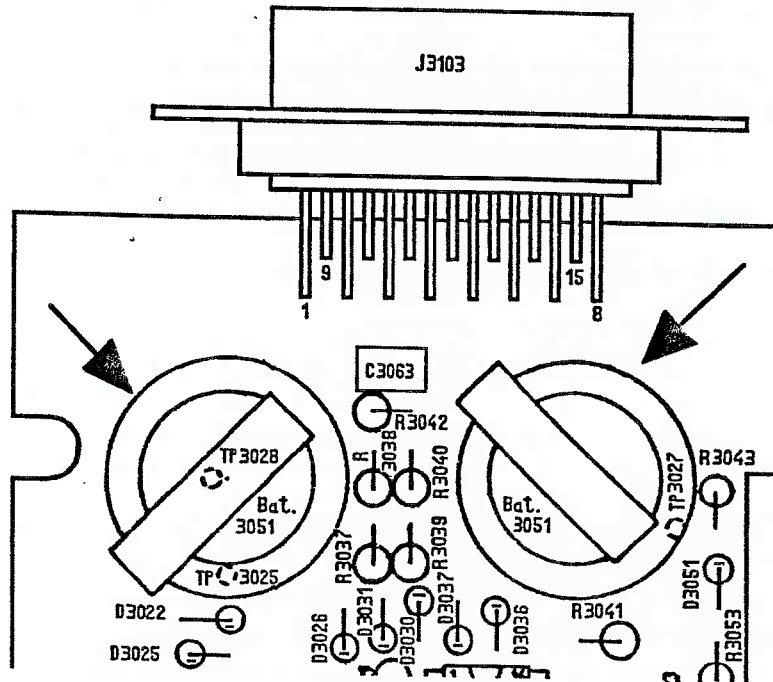
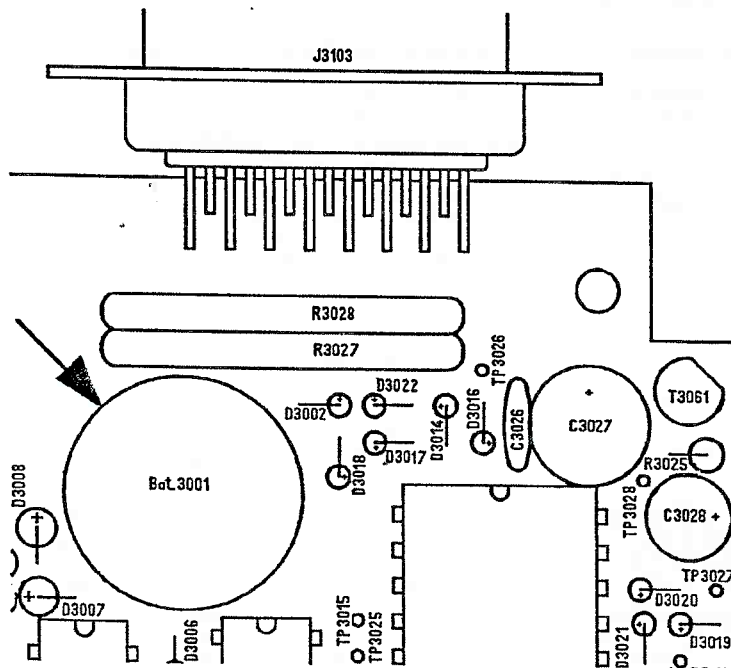

Fig. 1: Location of battery Bat. 3051 on Synthesizer Module 28110 - 13000.000
Fig. 5: Location of battery Bat. 3001 on new Synthesizer Module 28141 - 13000.000
5. If battery replacement is necessary, insert and solder new batteries as shown in Figures 1 to Figure 5. Ensure correct polarity!